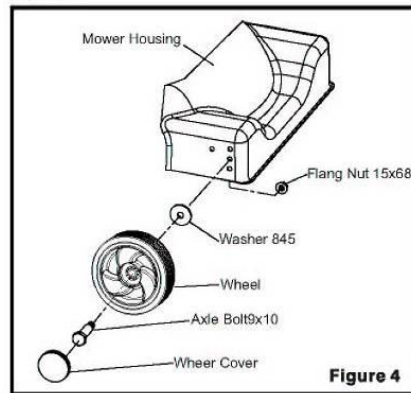

Figure 4
2. Assemble the wheel to the mower housing with an axle bolt, washer, and flange nut (Figure 4). To tighten , turn the axle bolt. Do not turn the flange nut.